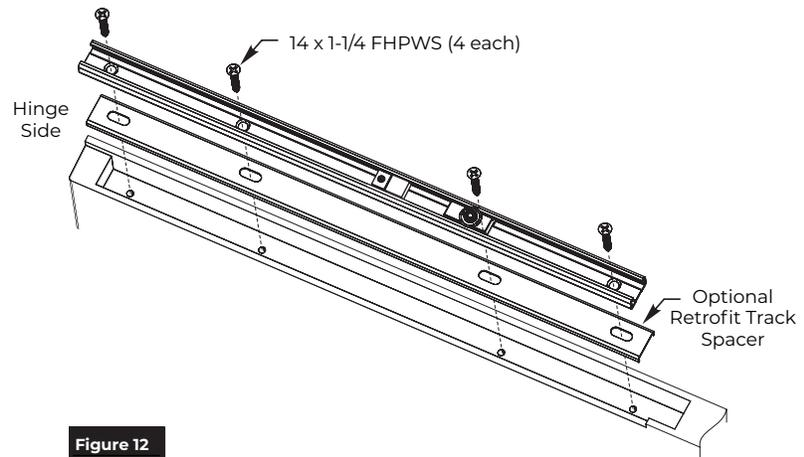

Figure 12
2. Install track and, if necessary, optional spacer (replacement application only, consult factory) using four (4) #14 x 1-5/8" FHPWS screws provided. (Figure 12)